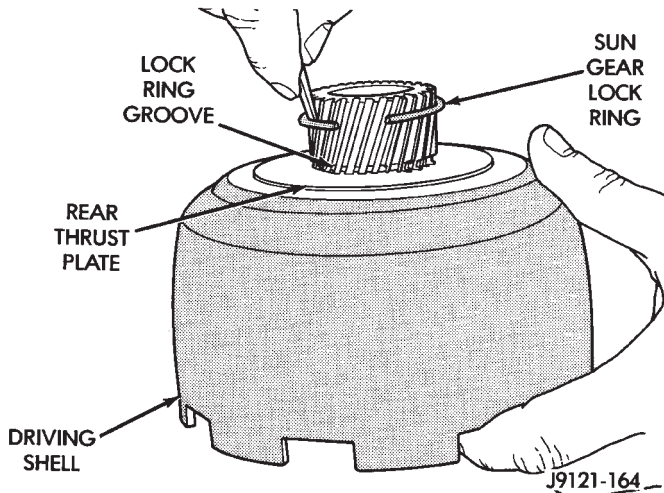

Fig. 92 Installing Sun Gear Lock Ring
(11) Align rear thrust plate on driving shell and install sun gear lock ring. Be sure ring is fully seated in sun gear ring groove (Fig. 92).